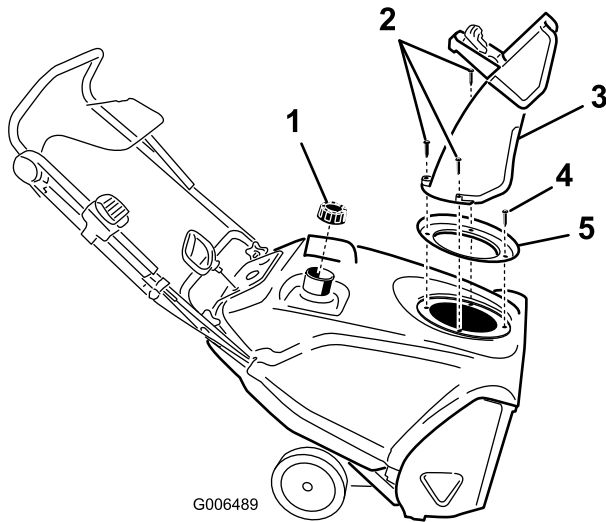

Figure 33
3. Remove the discharge chute, the discharge chute handle, and the chute seal by removing the 3 large screws and 1 small screw (Figure 33).